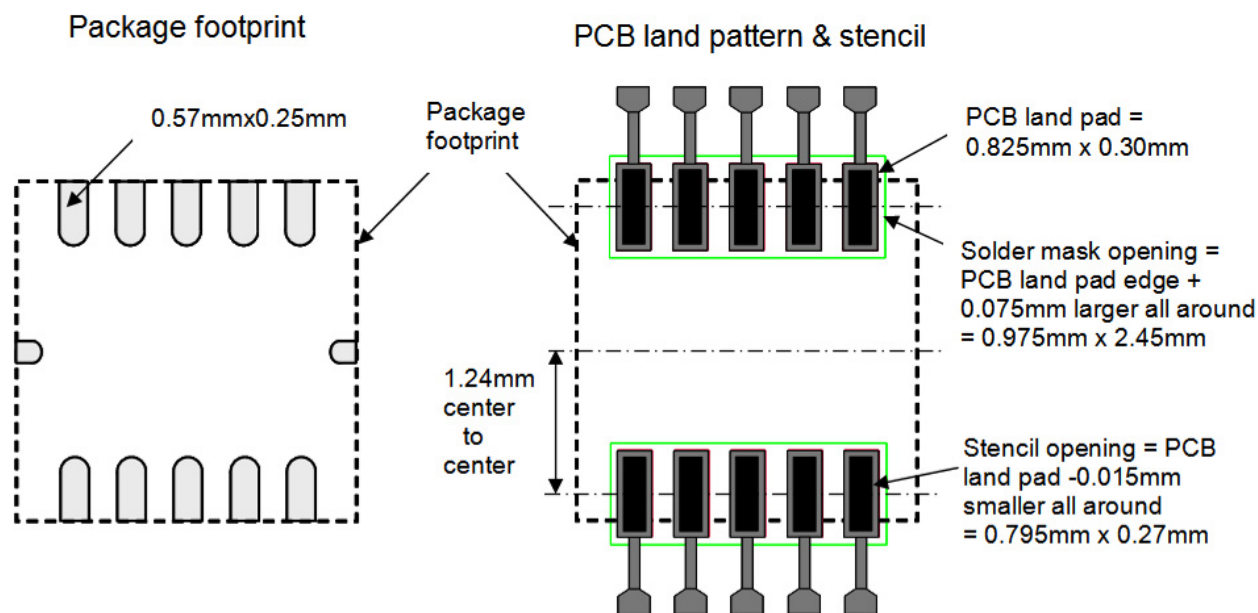

Figure 3. Package Footprint, PCB Land Pattern, and Stencil Design
1. The PCB land should be designed with Non Solder Mask Defined (NSMD) as shown in Figure 3 and Figure 4.
3. PCB land pad is 0.825 mm x 0.3 mm as shown in Figure 3 and Figure 4.
9. Signal traces connected to pads should be as symmetric as possible. Put dummy traces on NC pads in order to have same length of exposed trace for all pads. Signal traces with 0.15 mm width and minimum 0.5 mm length for all PCB land pads near the package are recommended as shown in Figure 3 and Figure 4. Wider trace can be continued after the 0.5 mm zone.